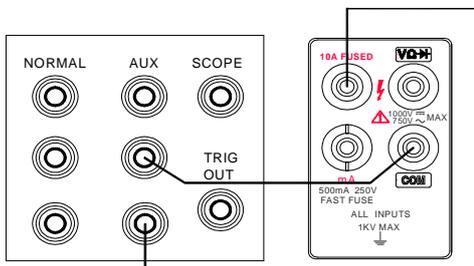

Figure 5-3
- 2) Connect the standard equipment with the meter as shown in Figure 5-3.
- 9) Placed the standard equipment in the “STBY” state, Connect the standard equipment with the meter as shown in Figure 5-3 referred before.